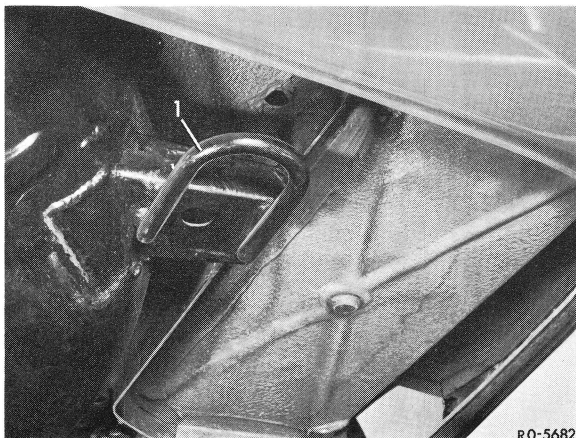

Fig. 2
The rear of the vehicle is also provided with an eye (1) for attaching a towing rope (Fig. 2).